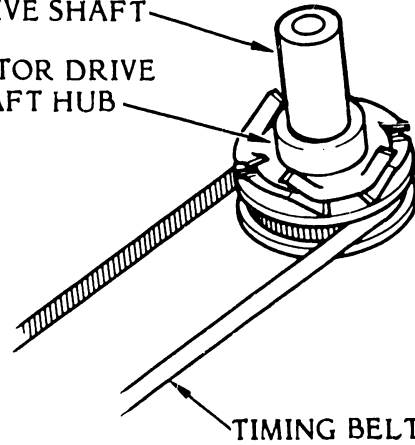

Figure 3-3. Ribbon Drive Assembly with Posidrive Belt
- b. Ribbon Drive Assembly with Posidrive Belt (Figure 3-3)
3. If the drive motor has a slip clutch, make sure its finger washers are positioned correctly (see figure 3-3).